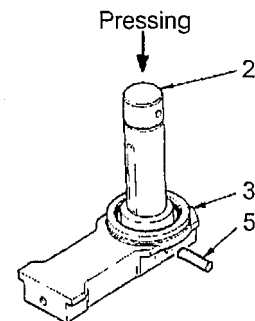

Fig. 34-54 Installing collar (3), shaft (2)
## 3) Installing collar (3) (See Fig. 34-54)